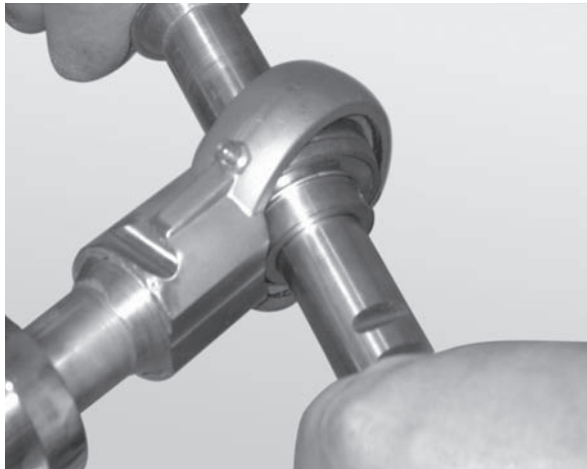

Figure 76
2. Insert the rod end of a second bearing shaft through the bearing (**Figure 76**).